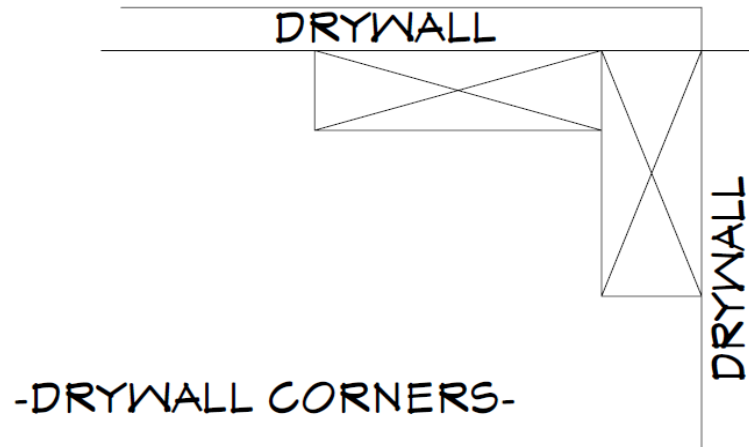

Figure 14-1. Outside Corner Installation of Sheetrock.
15. On outside corners of walls, install a piece of sheetrock on the first wall so its corner side edge is flush with the outside edge of the corner stud. Score and snap (or saw-cut) this piece flush to the corner. (An acceptable tolerance is a maximum of ¼” short of the corner, but do not allow the piece to extend past the outside edge of the corner stud.) Form a recessed corner by installing the second sheetrock piece on the adjacent wall so its edge is flush with the other outside edge of the corner stud. The outside corner ends of the sheetrock should not overlap the corner (see Figure 14-1).